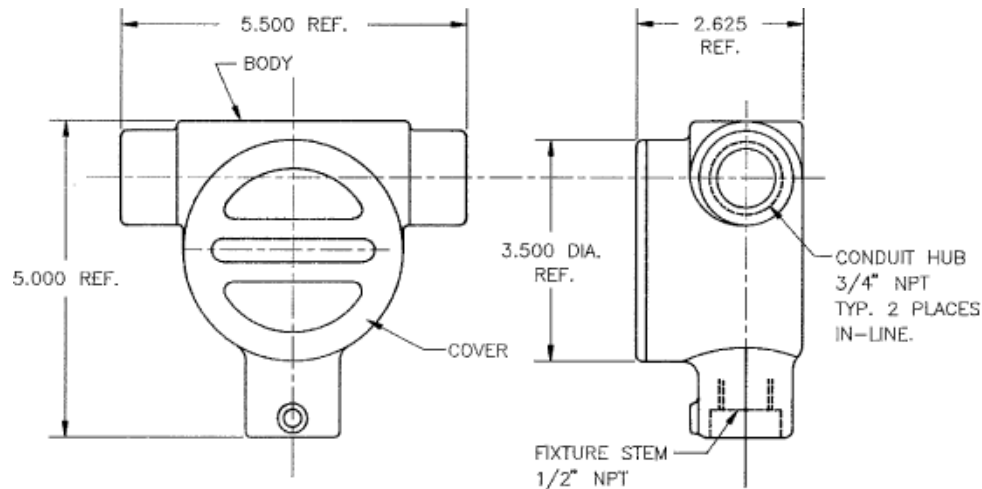

Figure 7. Optional Explosion Proof Mounting Box,
**Note:** Figure 7. Complies with NEC Class I, Groups A, B, C, D, Class II, Group E,F,G, Class III, and U.L. Standard 1203. Explosion Proof Mounting Box must be purchased separately from the D-A-F.